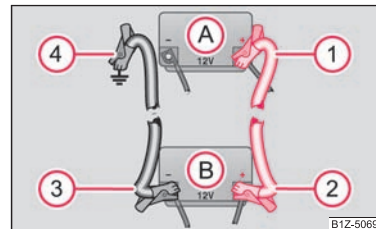

Fig. 183 Jump-starting using the battery from another vehicle: A - flat vehicle battery, B - battery providing current
- Attach one end ① ⇒ fig. 183 to the positive terminal of the discharged battery (A).
- Attach the other end ② to the positive terminal of the battery supplying the power (B).